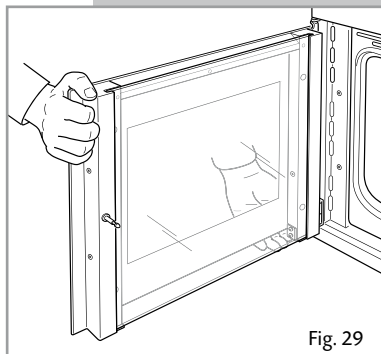
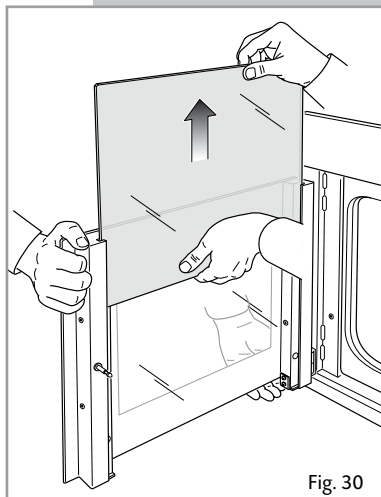

Fig. 29
Fig. 30
When removing and replacing the inner glass, the door should be held still by one person (fig. 29). A second person should gently remove the glass (fig. 30).
- Gently pull out the inner pane of glass (Fig. 30). Forcible removal of the door glass may lead to damage of the door hinges.